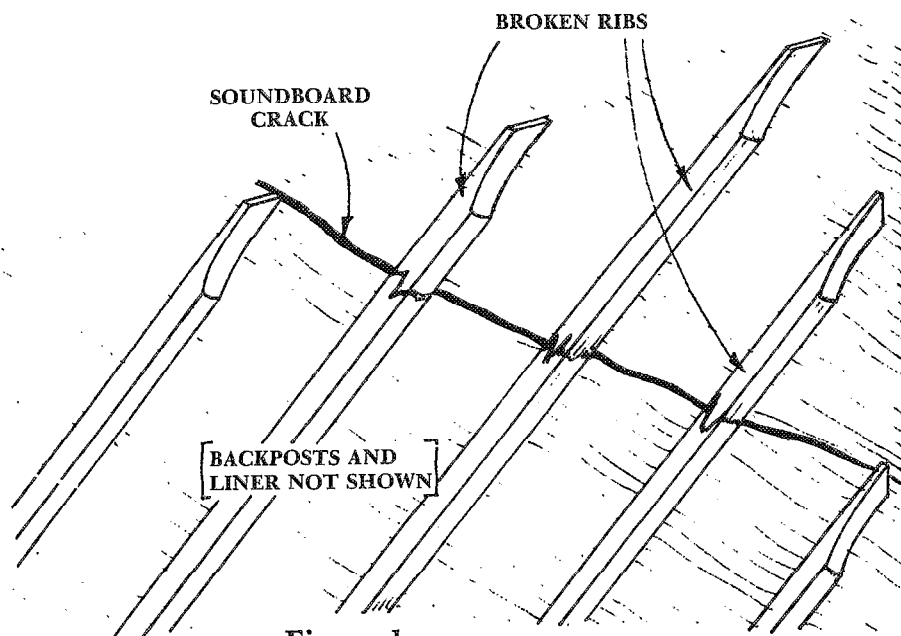

Figure 1
**ANSWER:** The problem, as illustrated in **Figures 1 and 2**, does indeed appear to have been caused by unusual stress, possibly in the way the board was made and installed. The ribs could have been further weakened when the piano was moved, even though they didn't break at that time. The piano could have been dropped or racked (twisted), and the resultant shock or deformation snapped some of the wood fibers in the ribs. As the soundboard moved in and out with the seasons, more fibers gave way. We don't know just what the customer was cooking in the kitchen (steamed clams?) but the break probably occurred in a period of high relative humidity when the stress would be greater.